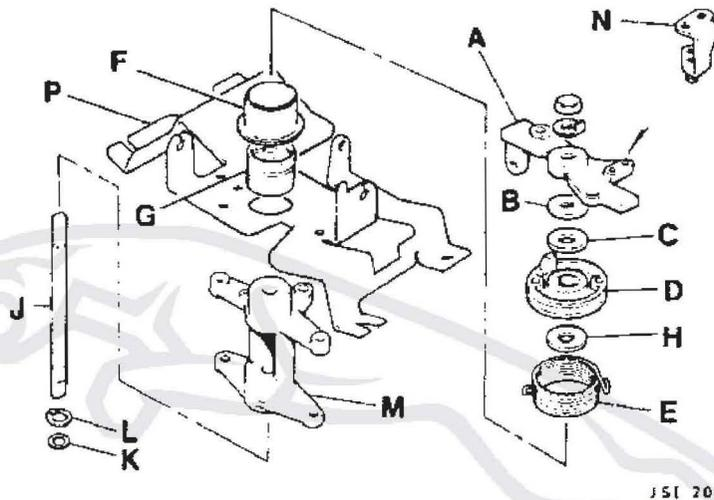

Fig. 1
8. Release the outer spring from the cruise control ball pin bracket; remove and discard the bracket (Item N, Fig. 1).
9. On the throttle pedestal assembly, knock down the tab and remove the retaining nut and tab washer. While carefully removing the following parts, as itemised in Fig. 1, take particular note of the locations for the lugs of the outer and inner torsion springs, to assist in re-assembly later:
13. Assemble the components of the throttle pedestal assembly as illustrated in Fig. 1, in the following order:
- Fit and align the nylon washer (H)
- Fit and seat the REVISED inner torsion spring (G), (Part No. NAB 3131BA), engaging the lower lug into its locating hole in the plate and housing (P)
- Fit and align the spring separator (F)
- Fit and align the REVISED outer torsion spring (E), (throttle return spring Part No. NAB 3131 AA) engaging the lower lug of the spring into its locating hole in the mounting plate (P)
- Fit and fully seat the REVISED throttle pulley (D), (Part No. NAB 3111AA) engaging the upper lug of the inner torsion spring to the locating hole in the lower face of the pulley
- Fit and align the nylon washer (C)
- Fit and align the thrust washer (B)
14. Ensuring that the 'flat' on the lower end of the shaft is still in the position described in (12) above, rotate the throttle pulley approximately half a turn CLOCKWISE, as viewed from above, thus partially tensioning the inner spring. Maintaining the assembly in this position, fit and align the throttle rod bracket (A) to the top of the shaft.